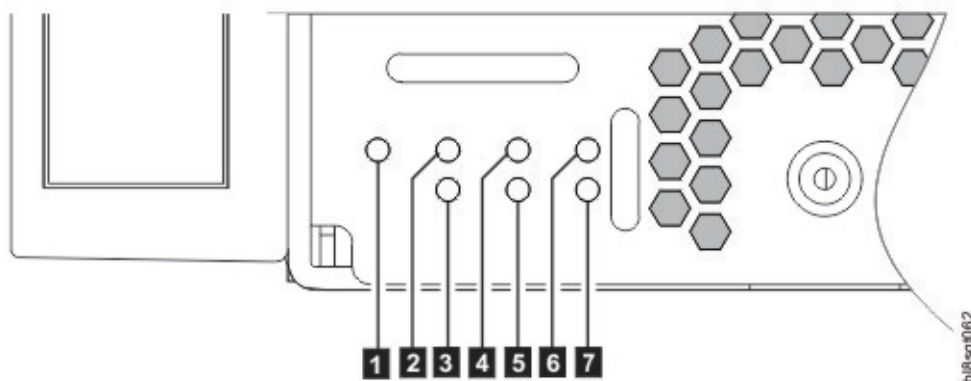

Figure 12. Front panel – lower left corner (partial view)
The enclosure front panel provides access to the seven (7) main enclosure system LEDs, located in the lower left corner. See also Figure 12 on page 15. The front panel also provides access to the left and right enclosure pull handles used to slide the enclosure forward for in-rack servicing tasks.